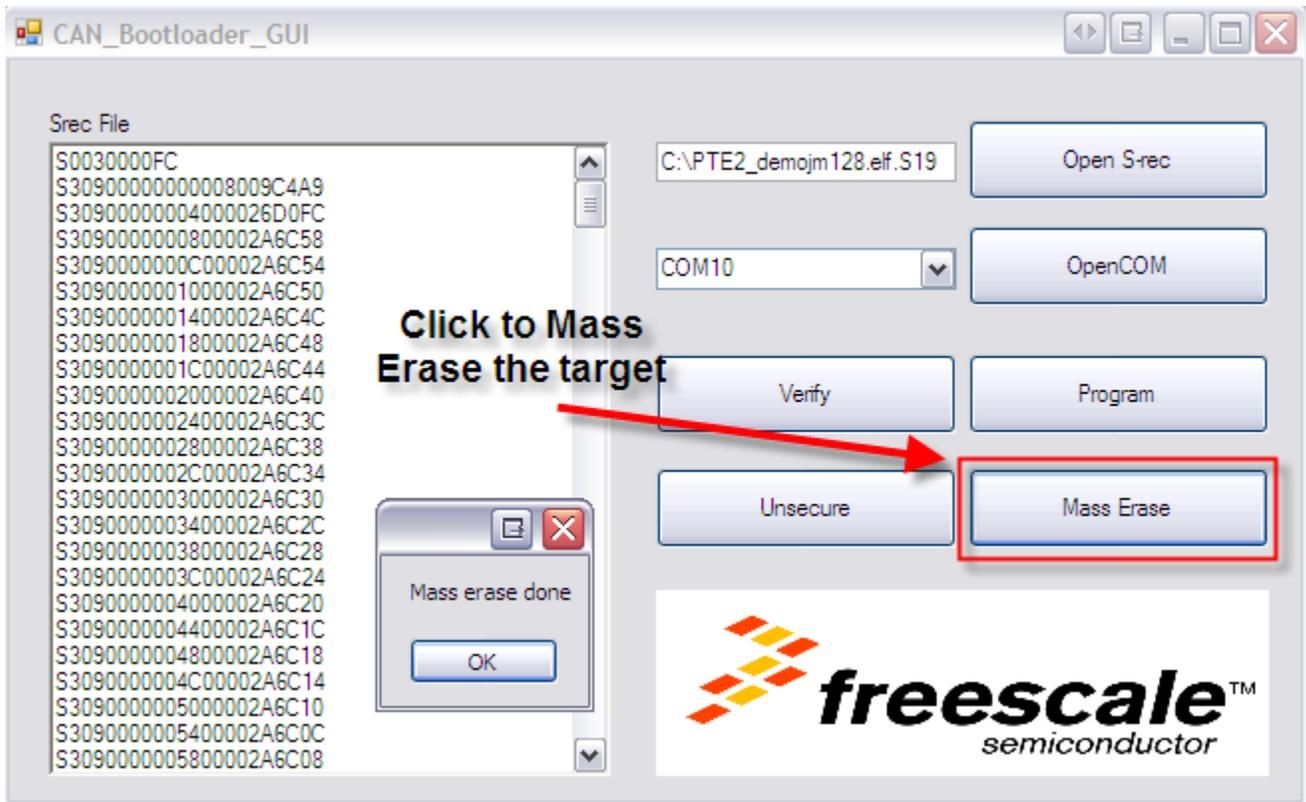

Figure 12. Mass erase
8. Click the Mass Erase button to erase the target and wait till the message "Mass erase done" appears on the screen (see Figure 12)